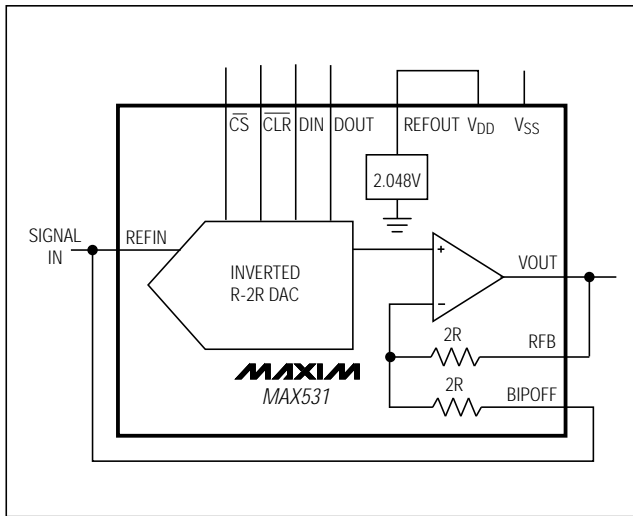

Figure 9. MAX531 Connected as Four-Quadrant Multiplier. The unused REFOUT is connected to V_{DD}.
The MAX531 can be used as a four-quadrant multiplier by connecting BIPOFF to REFOUT and RFB to VOUT, using (1) an offset binary digital code, (2) bipolar power supplies, using dual power supplies, and (3) a bipolar analog input at REFOUT within the range $V_{SS} + 2\text{V}$ to $V_{DD} - 2\text{V}$, as shown in Figure 9.